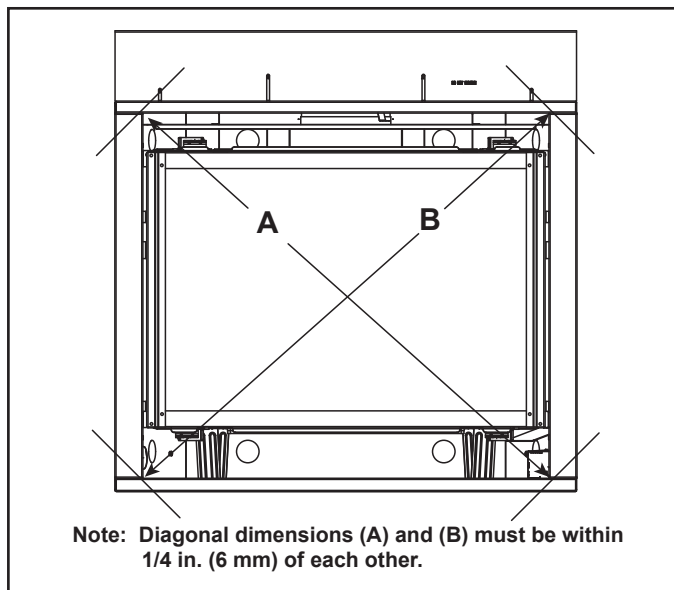

Figure 6.13 Positioning the Appliance Squarely
The diagram shows how to properly square and position, and secure the appliance. See Figures 6.13 and 6.14. Nailing tabs are provided to secure the appliance to the framing members.
- “Square” the unit by securing diagonal dimensions to within 1/4 in. (6 mm) of each other. See Figure 6.13.